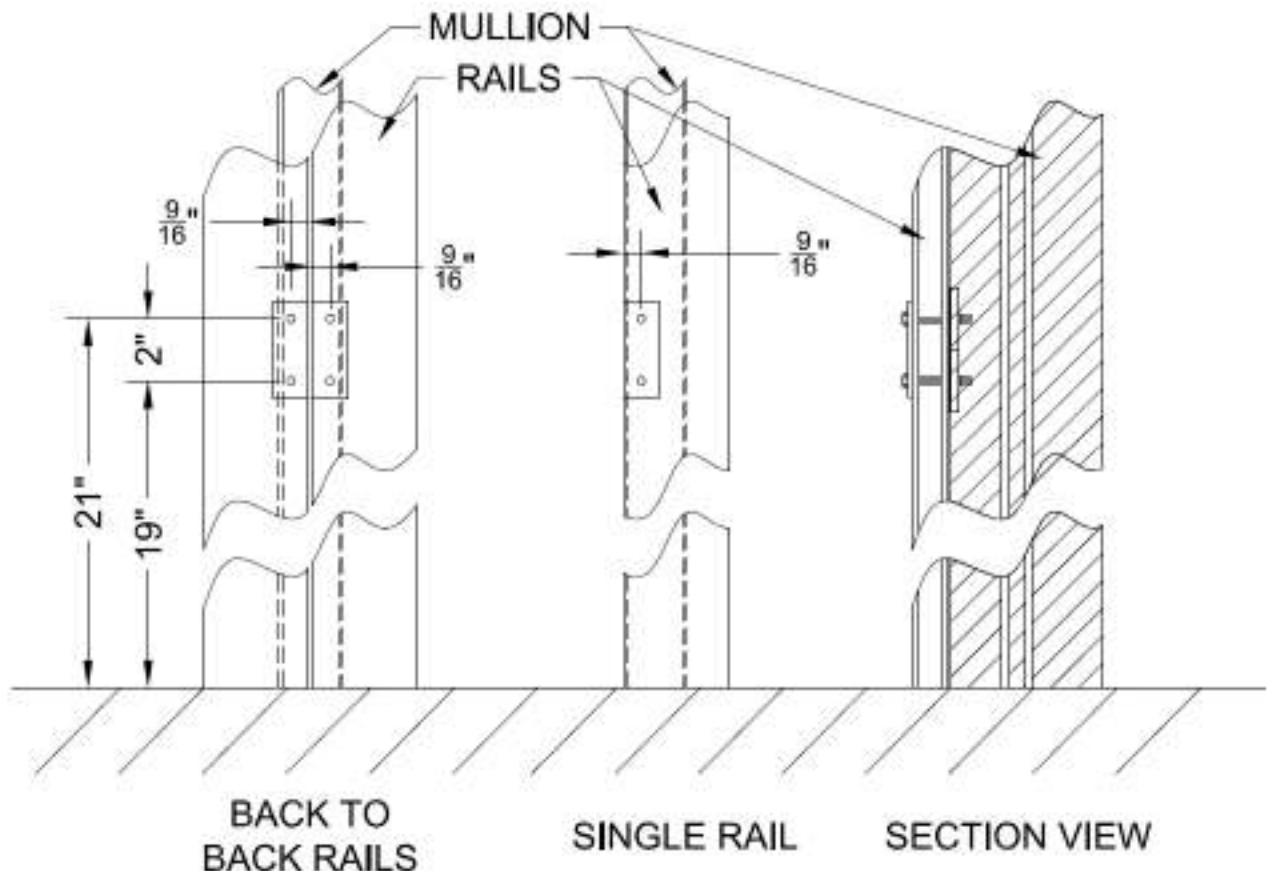
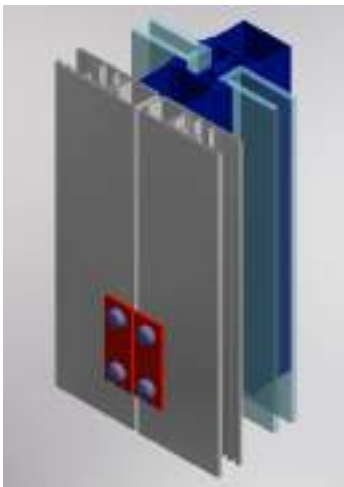
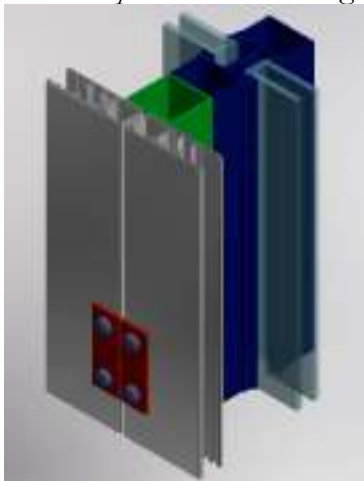

Figure 1: Hole layout
Figure 3: Completed overview
Figure 6: Completed overview with buildout
2. Locate the 1/2" holes provided for the toggle connections and verify the layout of these hole locations are correct. Height of holes from the bottom of the rails should be as shown below in *figure 1*.
- a. Back to back rail conditions are to use the rectangular 2 hole plate washer on both rails in the vertical orientation, as shown in figure 1. Also shown on figure 3 and 6 in red.
- b. Single rail conditions are to use a 2 hole plate washer, as shown in figure 1.
**7. Completed retrofit connection for back to back rails mounted directly to a mullion should look as shown in *figures 3, 4, and 5*. For connection to buildout see *figures 6, 7, and 8*.**